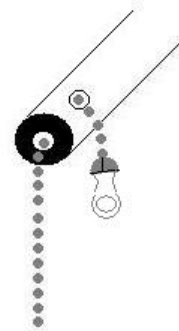

Fig. 3
4. Cut chain on mark and feed chain through bottom center hole in shaft and back out of either hole on sides of shaft. Secure chain with saved eyelet and crimp eyelet closed. See **Fig. 3**.